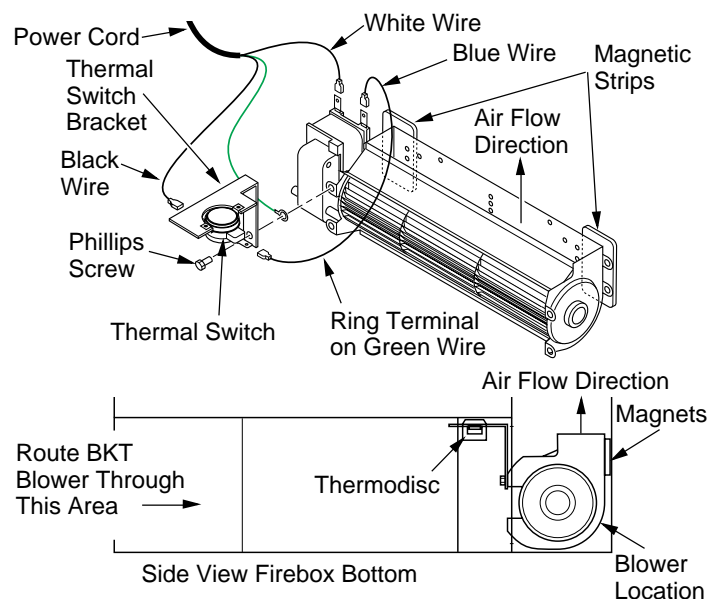

Figure 28 - Blower Model BKT
- Place the green ground wire with ring terminal between the bottom hole on the thermal switch bracket and the top ear hole on the blower assembly. Insert the phillips screw into all three pieces and tighten securely (see Figure 28, page 18).
- Place the blower against the lower rear wall of the firebox outer wrapper with the exhaust port directed upward and the thermodisc positioned up near the fireplace bottom. The thermodisc must be oriented near the fireplace bottom as shown in Figure 28 in order to sense temperature and properly operate. The blower will be held in position against the back wall by the magnets incorporated onto the blower housing (see Figure 28).